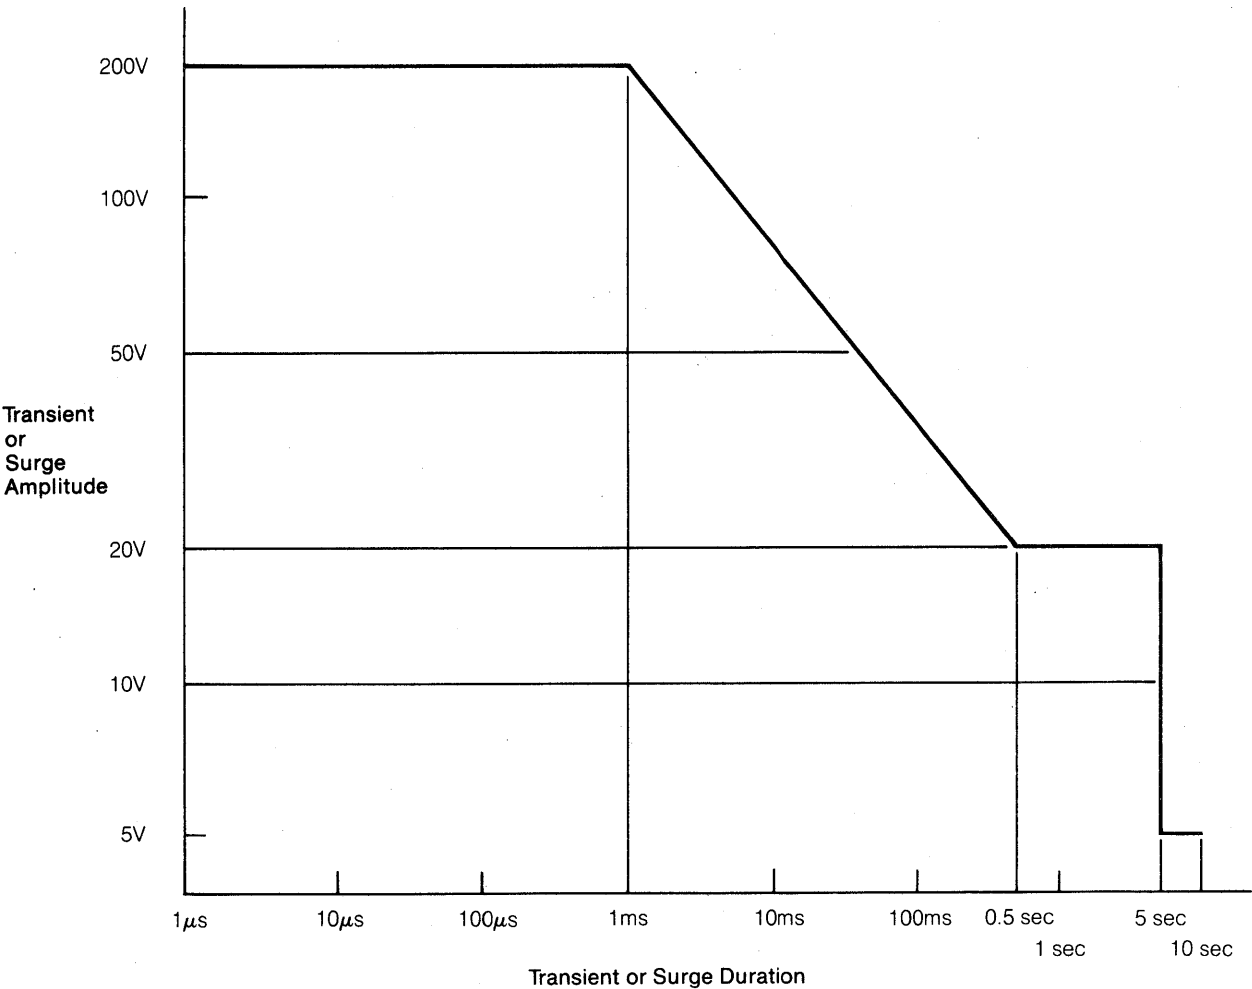

Figure B-1. Allowable Transient and Surge Voltage Amplitudes
- o Power line transients Power transients and interference less than specified value for Model 20/25 (See Figure B-1)